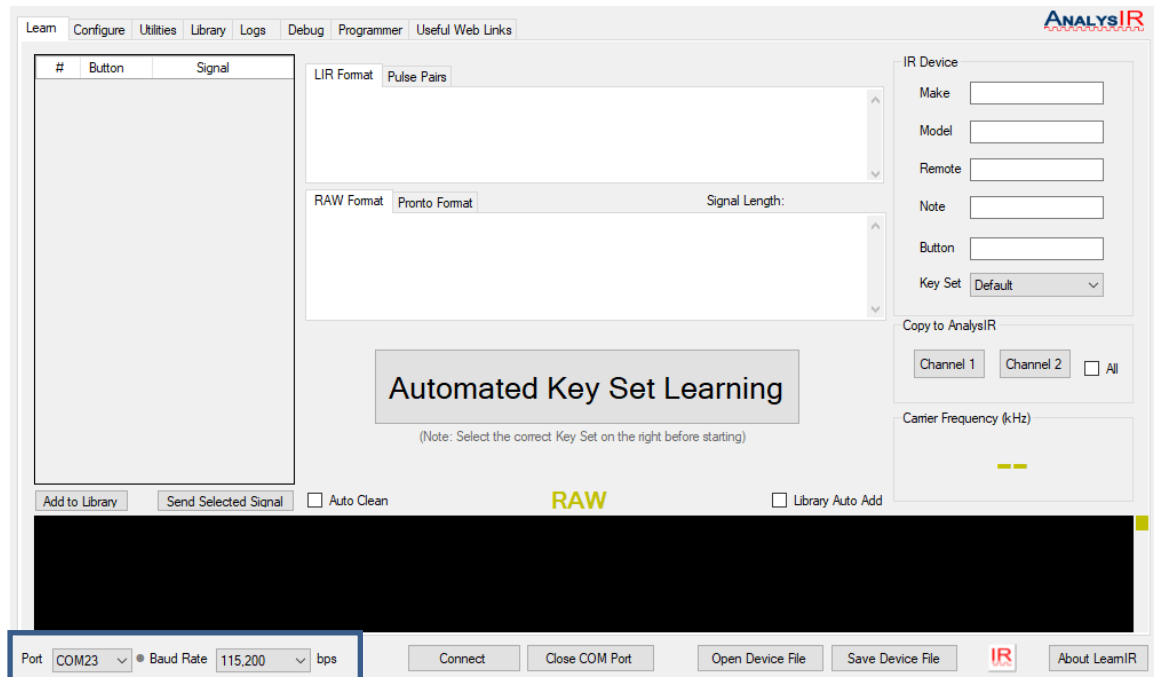

Figure 7 – LearnIR ready to Capture
5. Set the Port number – At the bottom row, from the **Port** drop-down box, select the **COM** Port number assigned to the LearnIRv2 dongle (from Device Manager). In the example screen (Figure 7), the selected COM Port is COM23.